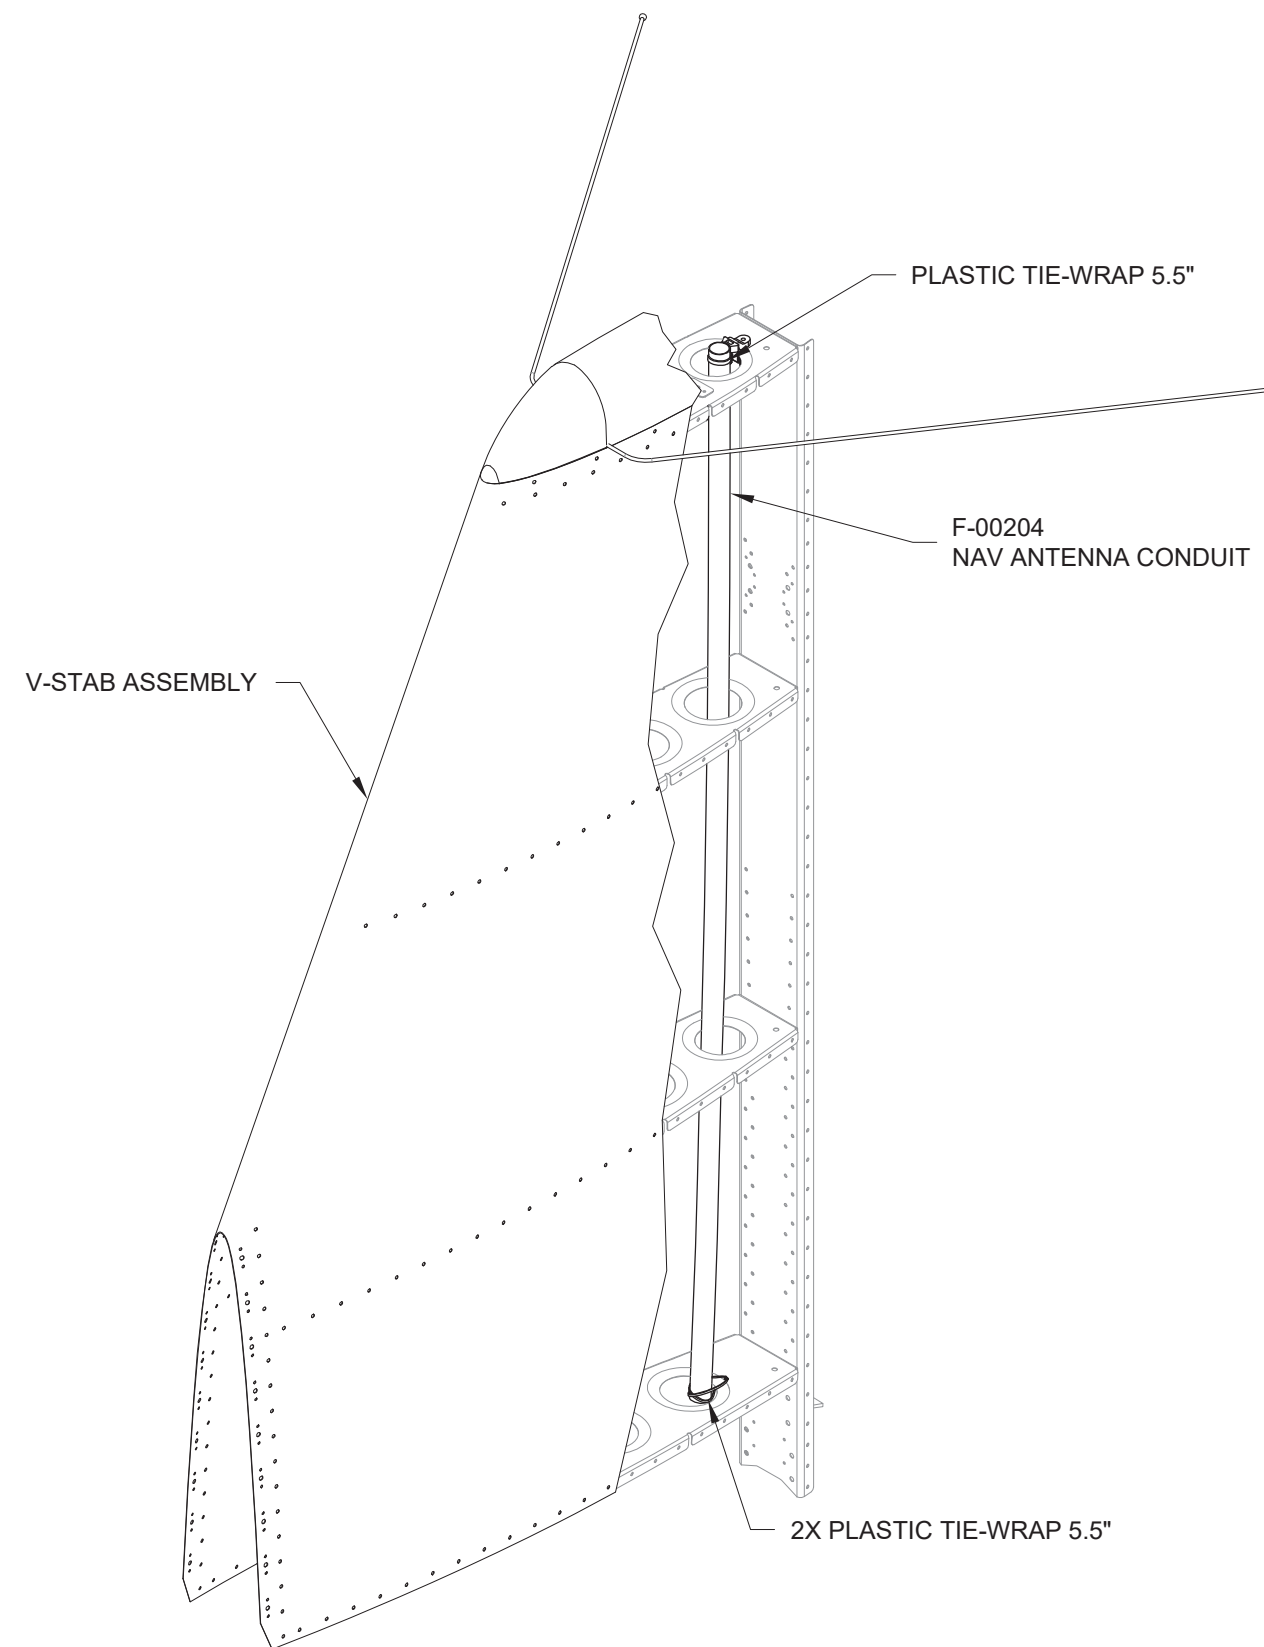

FIGURE 2: INSTALLING THE NAV ANTENNA CONDUIT
Step 5: Secure the bottom of the F-00204 to the VS-1208 using two crossing tie-wraps through the hole in the VS-1208 as shown in Figure 2.